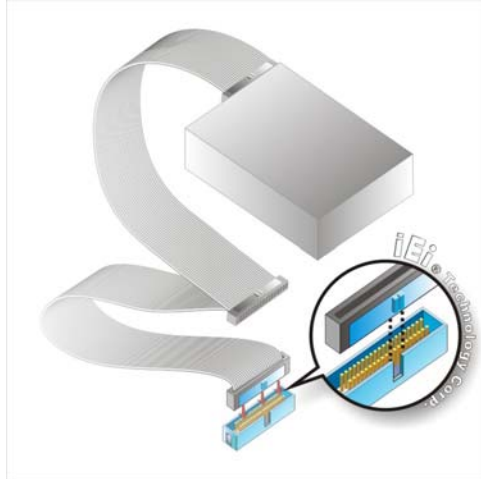

Figure 0-12: IDE Cable Connection
Step 2: Insert the connector. Connect the IDE cable connector to the onboard connector. See **Figure 0-12**. A key on the front of the cable connector ensures it can only be inserted in one direction.